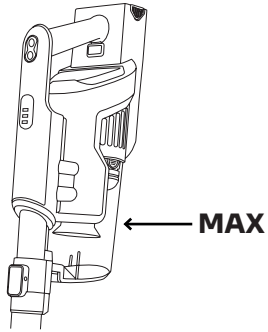

Fig.2
- Make sure the battery is securely in place. (Fig.2)